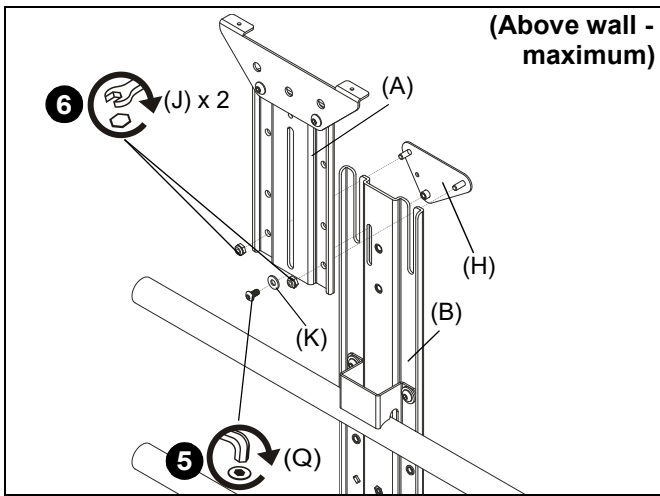

Figure 15
5. (For **maximum extension**) Use #10-32 x 3/8" button head cap screw (Q) and small washer (K) to secure adapter plate (H) to main bracket (B). (See Figure 15)
6. (For **maximum extension**) Use two #10-24 lock nuts (J) to secure upright bracket (A) to main bracket (B) and adapter plate (H). (See Figure 15)